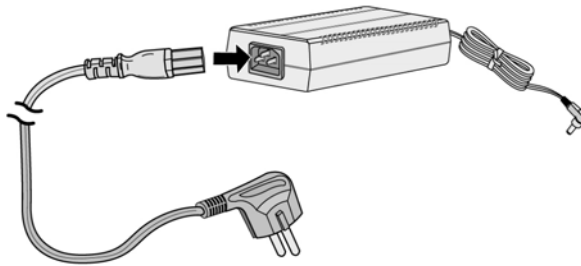

Figure 3.5.3 Power Adaptor
An AC/DC adaptor is packaged with the LDK-RSG. The adaptor is supplied with a two (2) meter (six (6) foot) AC cord terminated with the nationally relevant AC blade type. The adaptor supports AC input power systems with rated voltage range of 100-240 VAC @ 50/60 Hz. The adaptor provides 48 VDC, 0.8 amps. The DC output connector is cabled to the adaptor with a two (2) meter (six (6) foot) cable. Figure 3.5.3 shows the AC/DC Adaptor for the LDK-RSG.